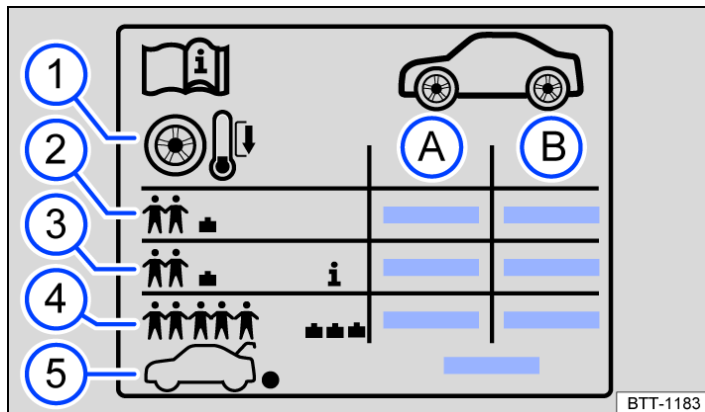

Fig. 1 Symbols on the tyre pressure sticker.
- Always adjust the tyre pressure to the load level → Fig. 1.